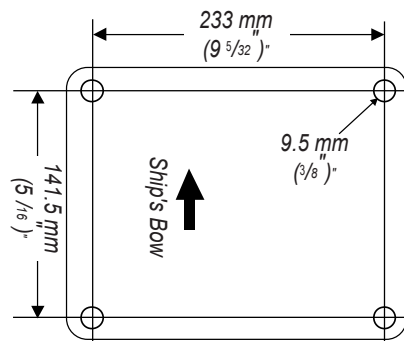

Figure 1
1. When a suitable mounting location is determined, verify that the mounting hole locations are aligned fore and aft, and use the included mounting template or reference Figure 1 to drill four 9.5 mm ( $\frac{3}{8}$ " ) mounting holes. (This step is not necessary if you are using a pre-drilled Garmin compatible or Raymarine® mount.)